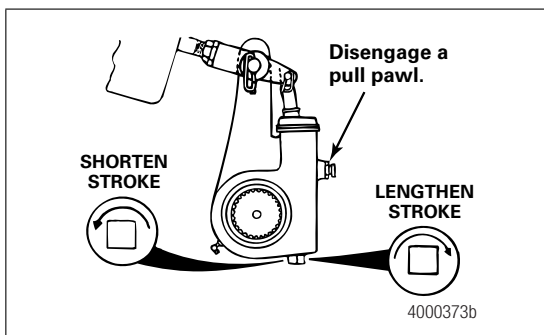

Figure 6.3
- If the free stroke measurement is not within specification: Turn the adjusting nut 1/8 turn in the direction shown in Figure 6.3 and check the free stroke again. Continue to measure and adjust the stroke until the measurement is within specification.